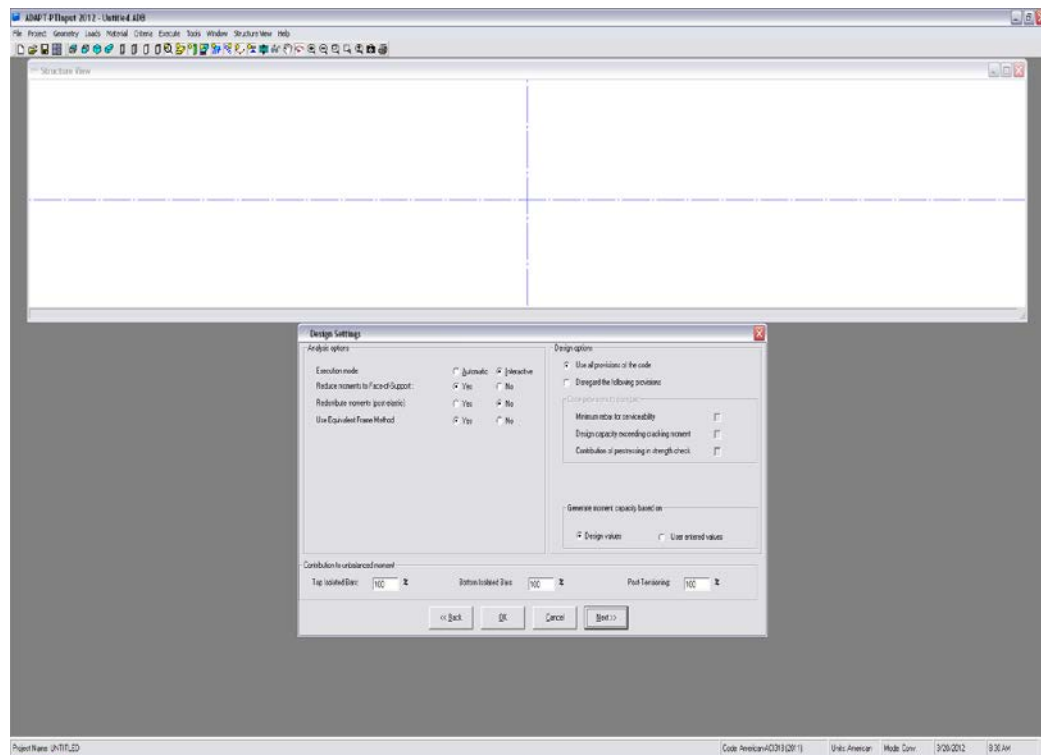

FIGURE 3.1-3
3.1.1.3 Design Settings (Fig. 3.1-3)